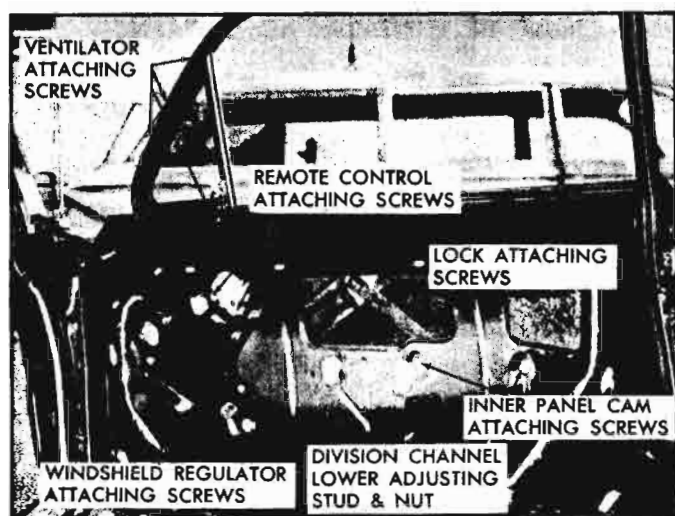

Fig. 10-90—Inner Panel Cam Attaching Screws
1. Raise door window. Remove door trim assembly and detach inner panel water deflector sufficiently to expose inner panel cam attaching screws (see Figure 10-90).